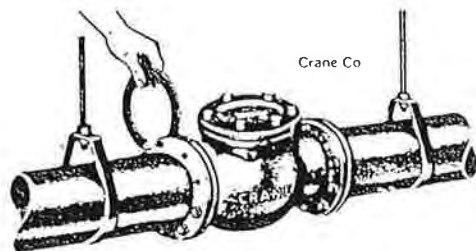

Fig. 6-10. Assembling a flanged joint.
6.27 Figure 6-10 shows a typical example. The mating parts are bolted together with a gasket between their machined faces to ensure a tight seal. The procedure involves clean parts, proper alignment and support of the pipes, correct insertion of gaskets, and proper tightening of bolts.